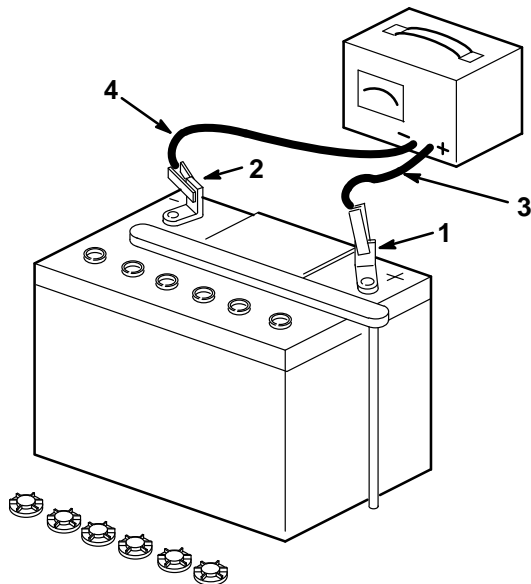

Figure 15
3. Leave the filler caps off and connect a 3 to 4 amp battery charger to the battery posts (Fig. 15). Charge the battery at a rate of 4 amperes or less for 4 hours (12 volts).
4. When the battery is fully charged, disconnect the charger from the electrical outlet and from the negative and positive battery posts (Fig. 15).